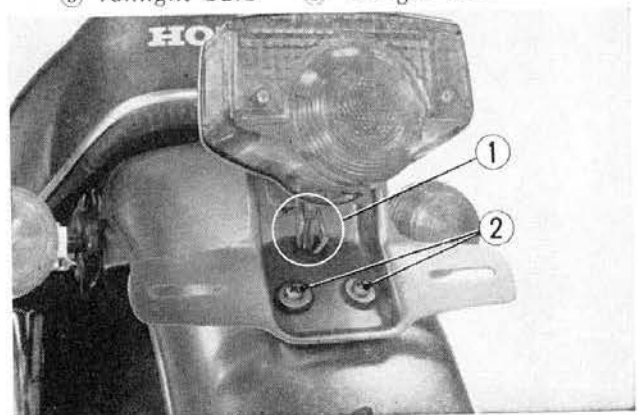

Fig. 16-7 ① Lead connectors ② Taillight bracket screws
1. Disconnect the tail/stoplight leads at the connectors and then remove the tail/stoplight bracket. (Fig. 16-7)